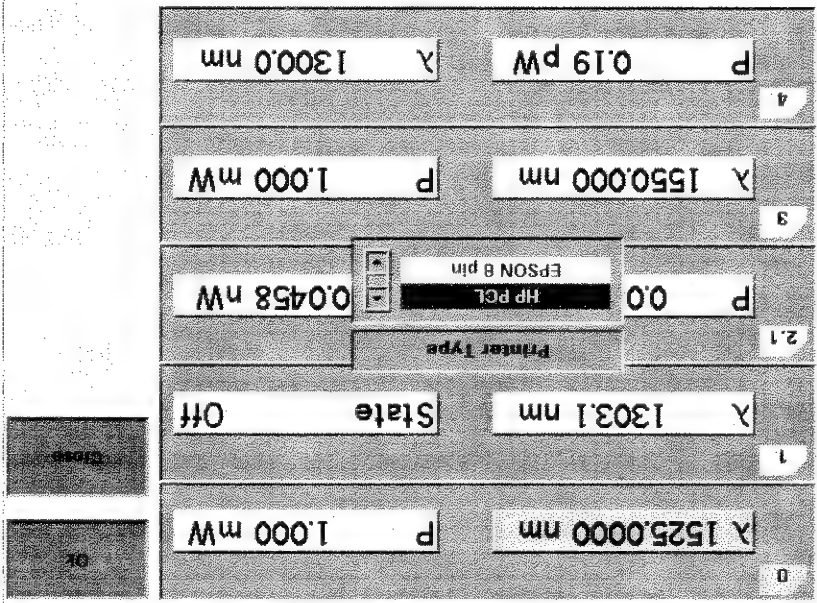

Figure 30 Selecting a Printer Type
- 2 Move to the **<Printer Type>** menu option and press *Enter*. You see a box, as shown in Figure 30, displaying the following printer types: